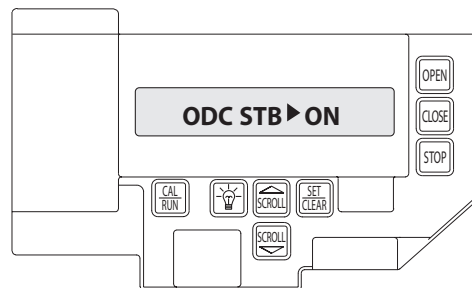

Figure 16
- 2) Press SCROLL  (up or down) until display reads "ODC STB>ON" or "ODC STB>OFF" **Figure 16**.